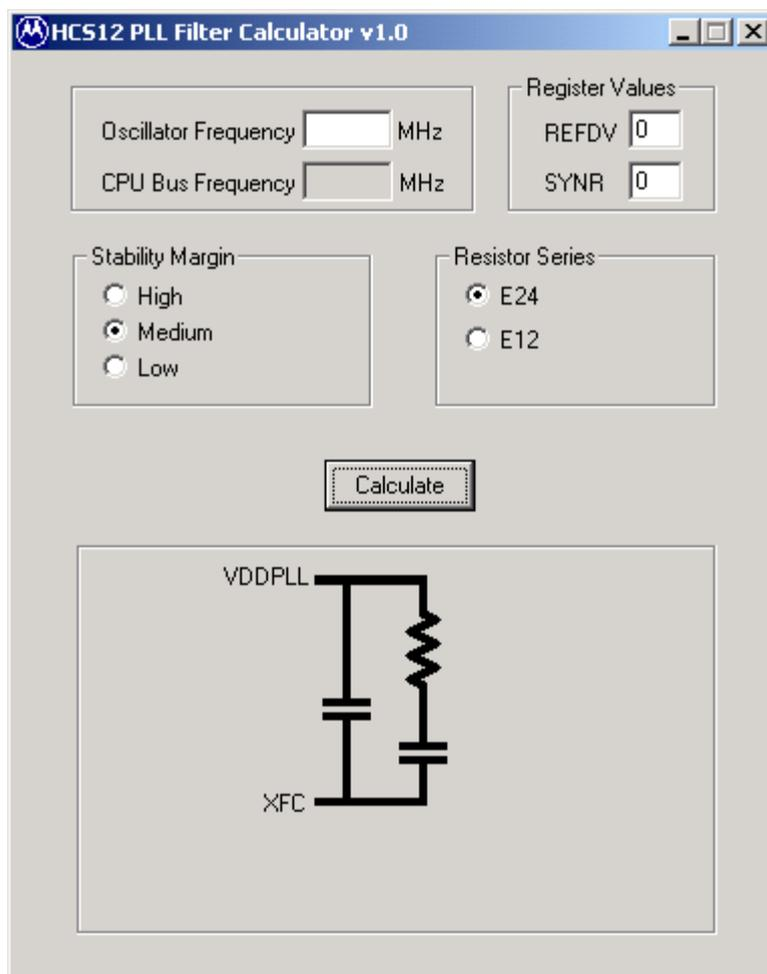

Figure 2. PLL Filter Calculator
The S12 PLL Filter Calculator is run by executing the file "HCS12 PLL Filter.exe" on a Personal Computer (PC) running a 32-bit Windows™ operating system. The dialogue box shown in Figure 2. PLL Filter Calculator is presented.